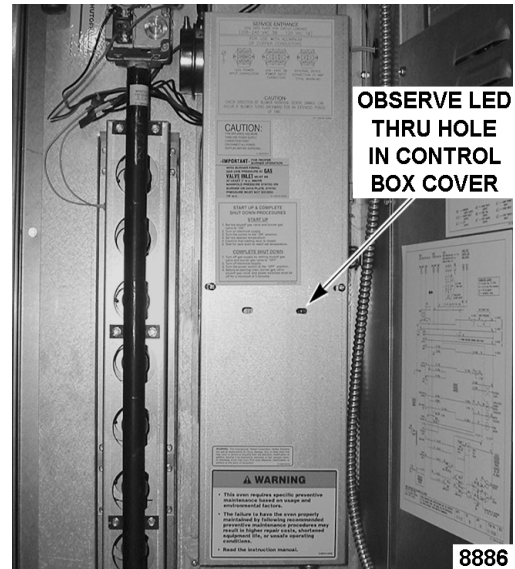

Fig. 13
- E. Observe LED light through hole in control box cover (Fig.13). After trying to light the burner three times, the module should lockout. (See chart below.)
- I. Observe LED light through hole in control box cover (Fig.13). The ignition module should go into lockout. (See chart below.)